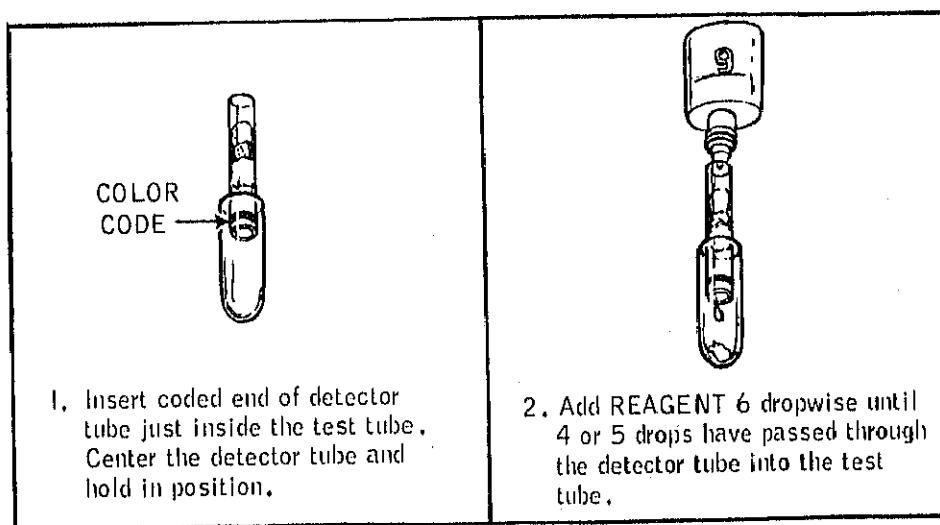

Figure 3-6 (U). Extracting agent from detector tube (U).
- (1) Extract agent from WHITE BAND TUBE (fig. 3-6). Take care to prevent reagent from running down outside of detector tube.
- (2) Discard detector tube after extraction.
- (3) Place test tube in heating block and evaporate contents to dryness.
- (4) Remove test tube (with test tube holder).
- (5) Allow tube to cool (30-60 seconds).
- (6) Add 2 drops of REAGENT 8 and wait 1 minute.
- (7) Add 1 drop of REAGENT 30.
- (8) If color of the material in the test tube is yellow, add 1 more drop of REAGENT 30.